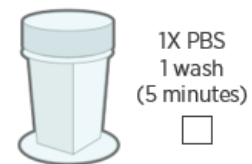

Figure 35: PBS Wash
8. Wash slides in staining jar with 1X PBS for 5 minutes (Figure 35). During PBS wash, prepare staining jars for next step. Proceed to next steps immediately.